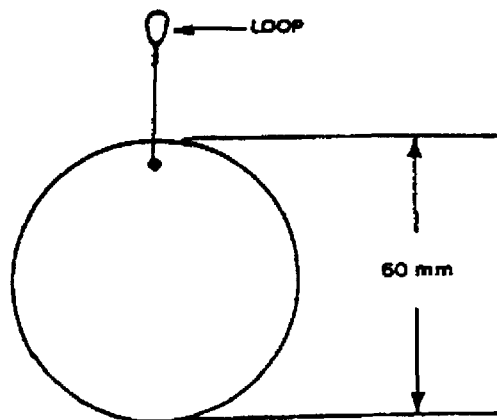

Figure 1
3.3 A fine wire, such as Chromel A, 28 gauge, (0.32 mm) is attached through the hole and made to the appropriate length to suspend the disk in a liquid. The wire should have a small loop on the upper end so it can be hung on the balance. See Figure 1.